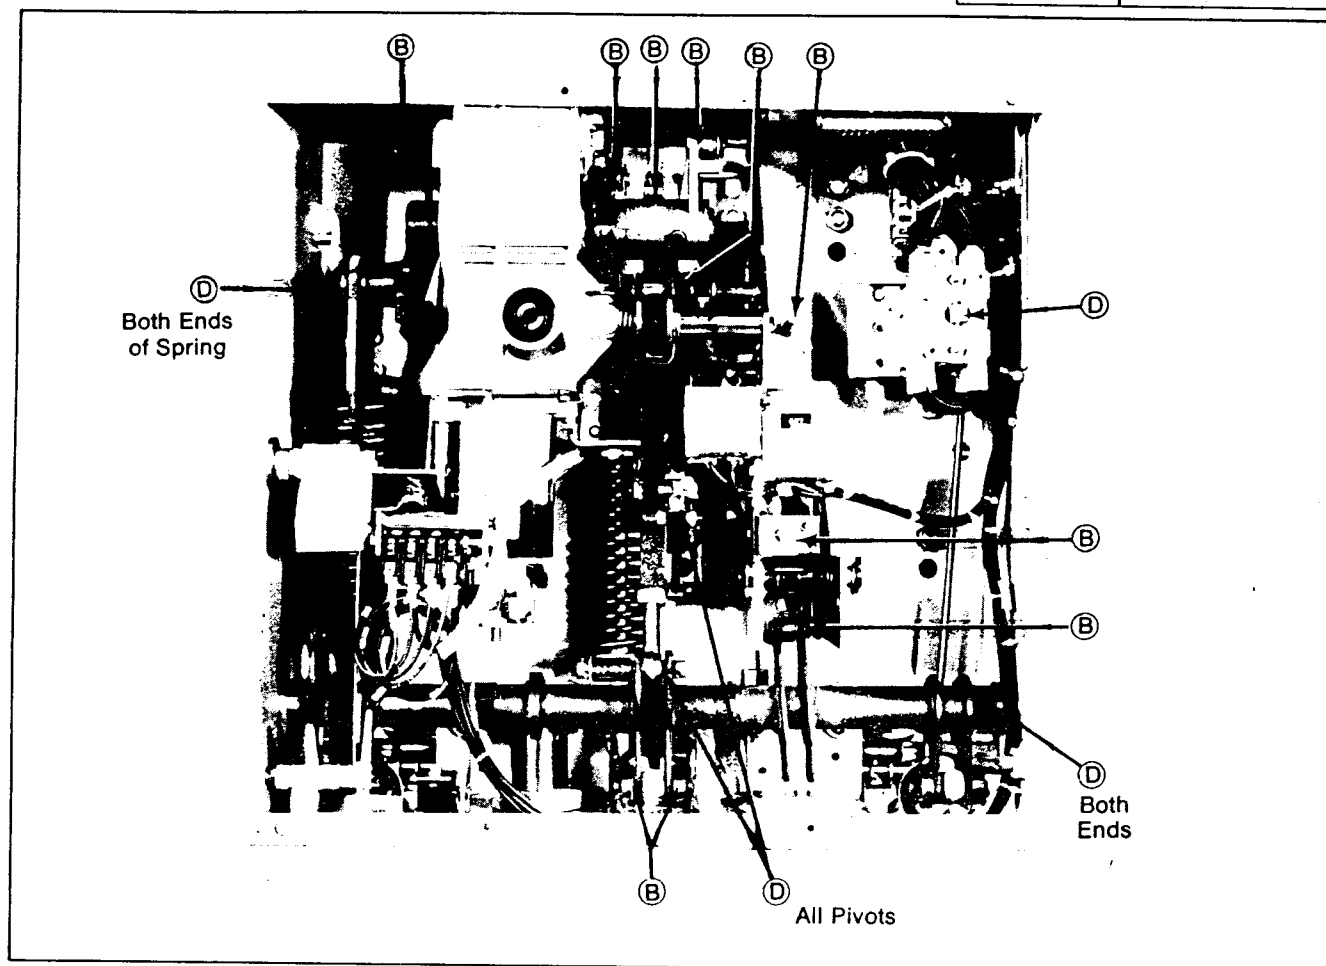

Figure 23. Points To Be Lubricated
- 2.6 Push terminal clamp 29.2 against the locking ring on the moving terminal 36.1 and position interrupter 30 so that its groove faces the connecting surface of flexible strap 29.1. Tighten the bolt of terminal clamp 29.2 with a torque of 40 Nm, taking care to see that the copper terminal of the interrupter is not subjected to an undo bending moment. This is achieved by tightening the bolt in the manner shown in Figure 23. Use a corresponding wrench to hold the nut.
The main points to be lubricated with Beacon 325 (Siemens number W-962-030) are all bearings and sliding surfaces indicated in figure 23. All points not marked (bearings, articulated joints and auxiliary switch) should be treated with Dexron II.